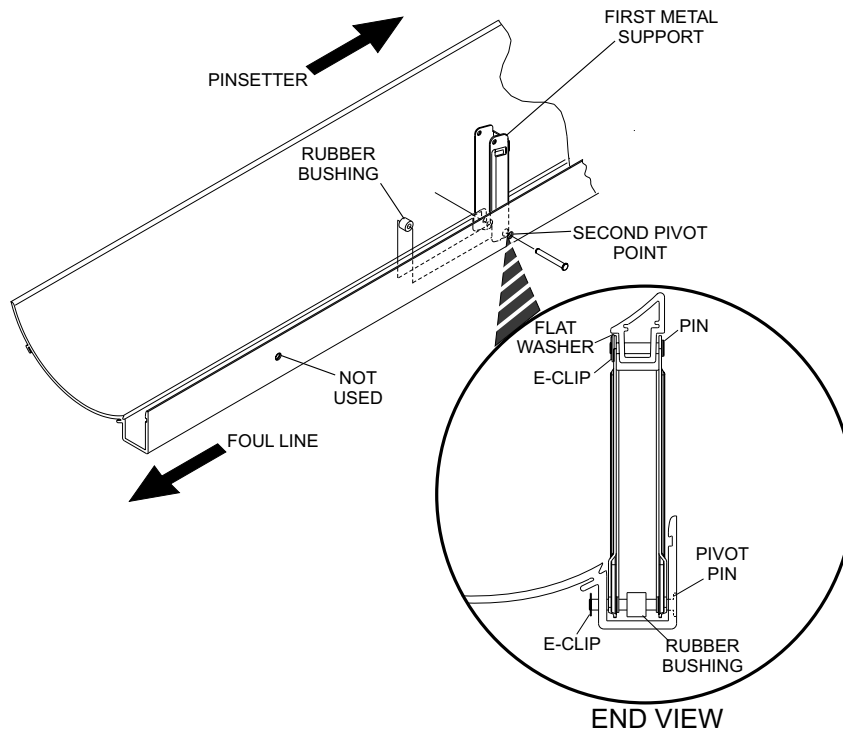

Figure 7
- Insert the pin through the gutter and halfway through the wide end of the vertical support. Slide the **rubber bushing** onto the pin and continue to push pin through the upright and gutter. Refer to *Figure 7*.